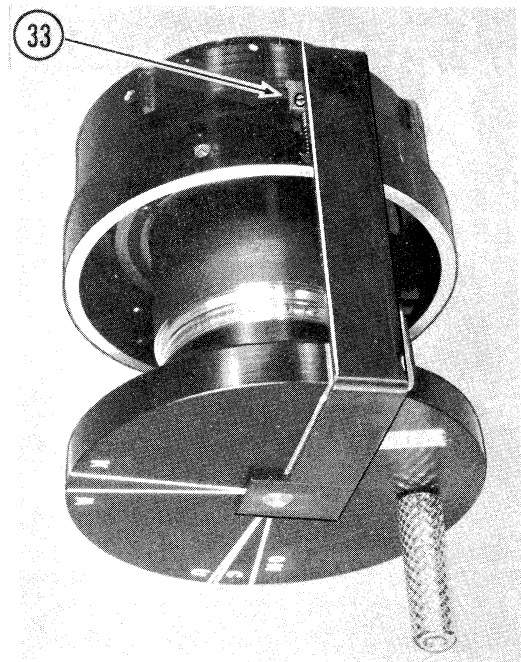

Fig. 70
- 13.3.14 Rotate Tool until diaphragm closes to smallest aperture (13.3.9) Align Angle Blade with desired angle setting for the lens mount. Edge of Angle Blade should fall along center line of Brass Pin of Change Plate (33). (Fig. 70) Adjust position of Diaphragm Housing within Prime Lens Housing so that: